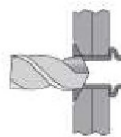

Figure 3
- (3) Drill through the head with a drill diameter slightly less than the nominal diameter of the rivet, see Figure 3.